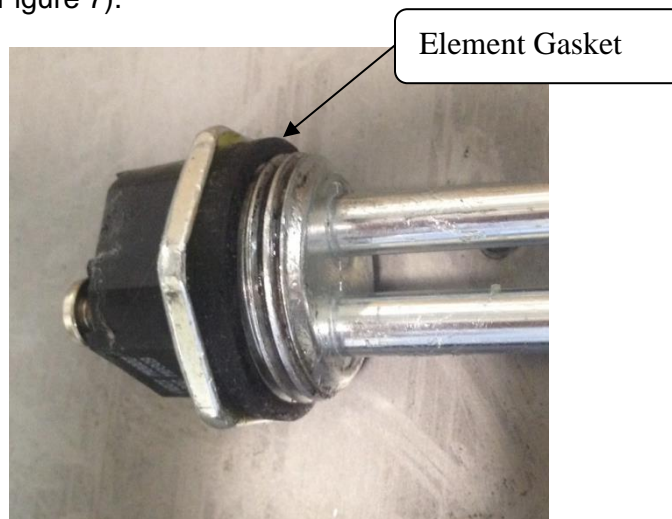

Figure 7. Element Gasket
6. Apply the new gasket (provided in the kit) to the element. Make sure the gasket is aligned correctly and it is not rolled-over (see Figure 7).